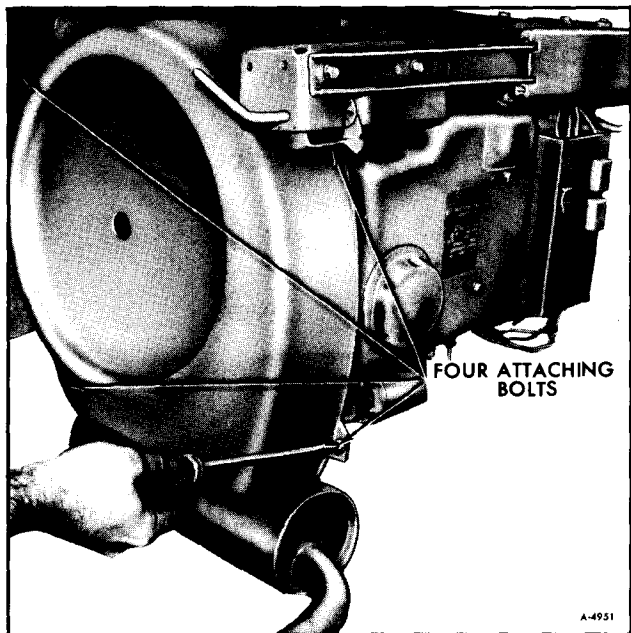

Figure 48—Removing Blower Housing Scroll
4. Remove the blower housing scroll by removing the four attaching bolts (See figure 48).